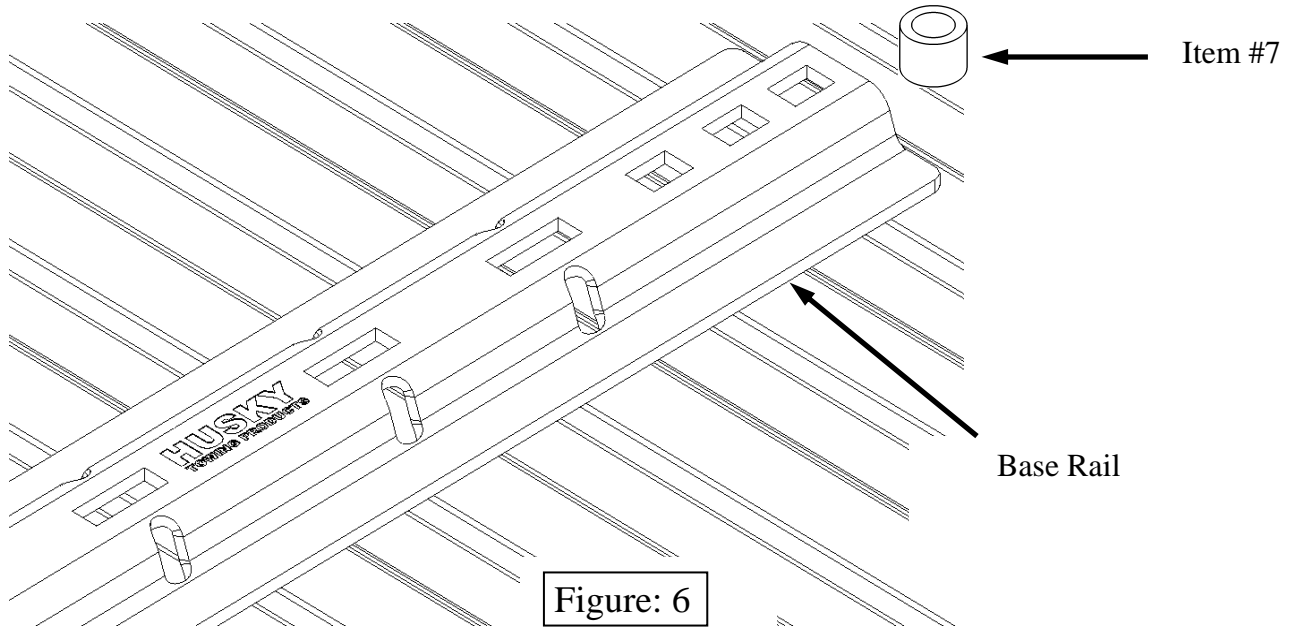

Figure: 6
6. Reposition the base rails in the bed so that the square 5/8" hole in the end of each rail is lined up over the drilled holes. Place a 1" spacer tube (item #7) under the ends of each base rail, in line with the drilled holes performed in step 5. See Figure 6 below.